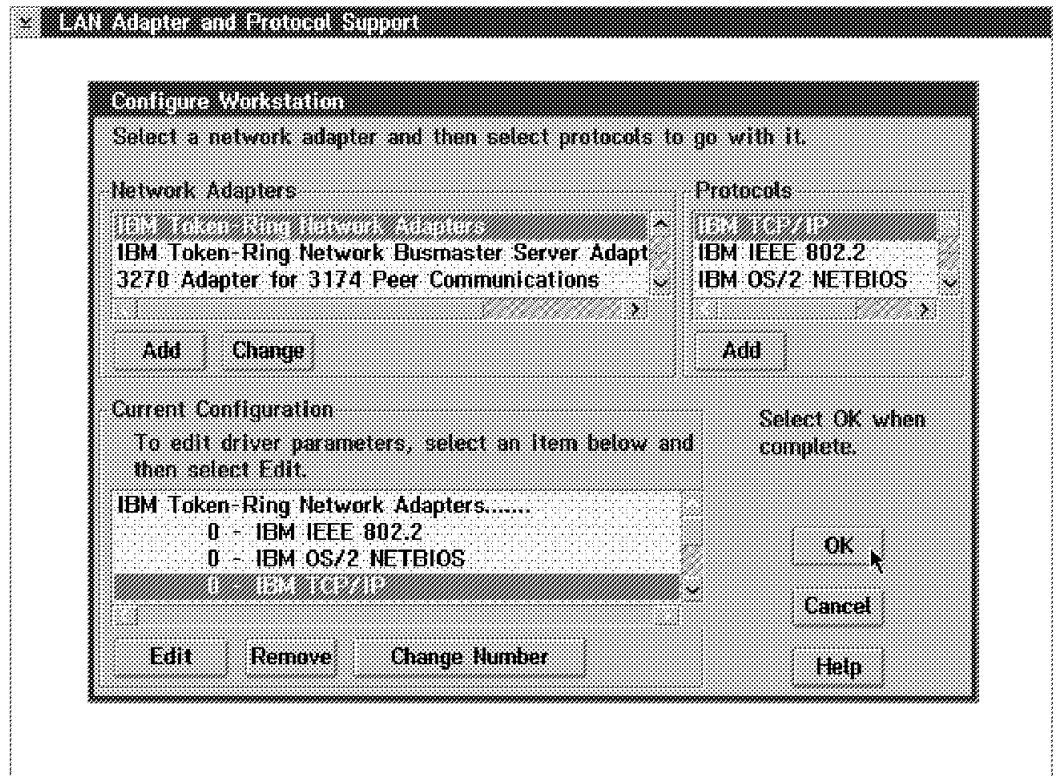

Figure 95. LAPS Configure Workstation Window for Workstation LAN Adapter (Token-Ring)
- Step 1. At the Configure Workstation window, make sure that the Current Configuration field includes the proper token-ring adapter name for the token-ring adapter type you have installed in your workstation. Use IBM Token-Ring Network Busmaster Server Adapter if you have an IBM Token-Ring Network 16/4 Busmaster Adapter installed or IBM Token-Ring Network Adapters if you have an IBM Token-Ring Network 16/4 Adapter/A installed. Ensure that IBM TCP/IP is included under the name for the token-ring adapter as shown in Figure 95.